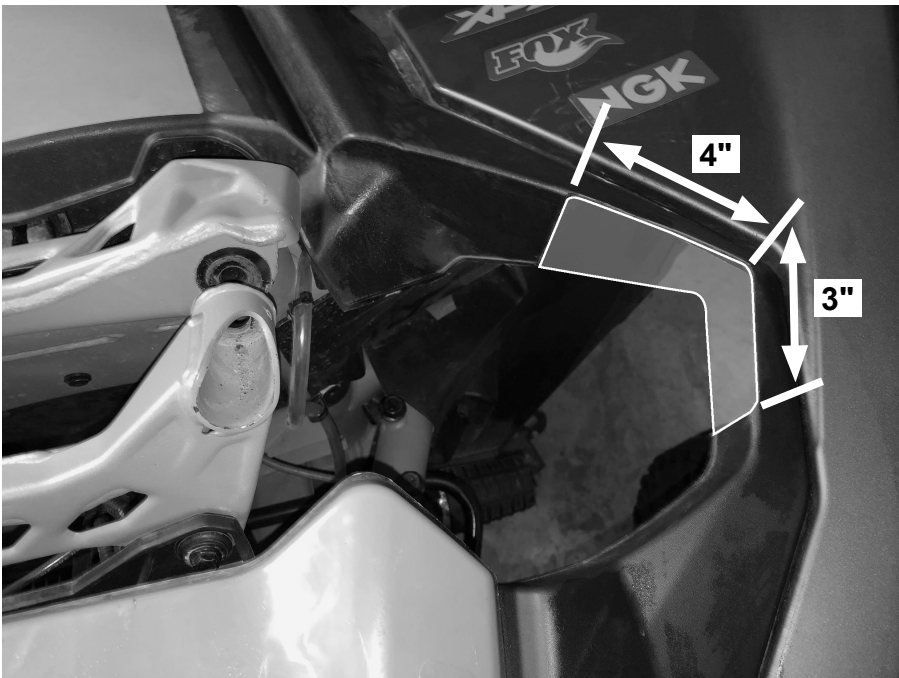

Figure 1c
2. With the shocks removed, cut out a portion of the front plastic as depicted in Figure 1c. Removing the material will avoid shock/plastic interference when the suspension is at full compression. A Dremel tool is helpful to accomplish this step.